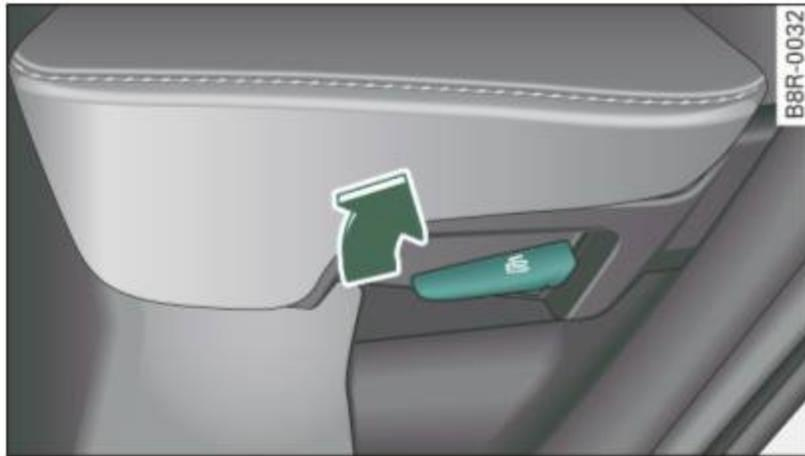

Fig. 72 Adjusting seat back angle
- Pull the lever up and push the seat back toward the rear to the desired position ⇒ fig. 72. Release the lever.